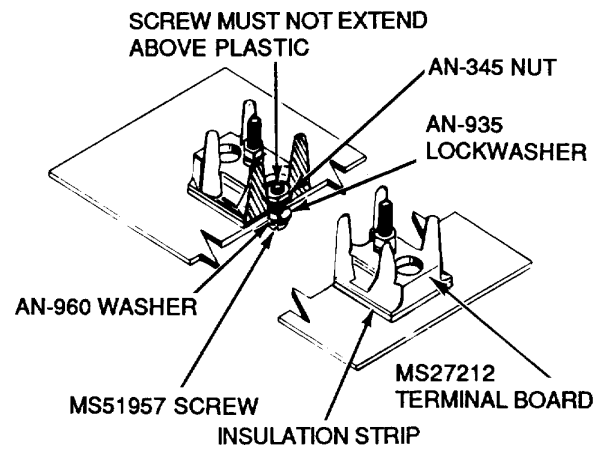

Figure 11. Alternate Method of Mounting Terminal Boards
- c. Mounting screws shall extend beyond the top of the nut, but not beyond the level of the terminal board mounting surface (Figure 11).